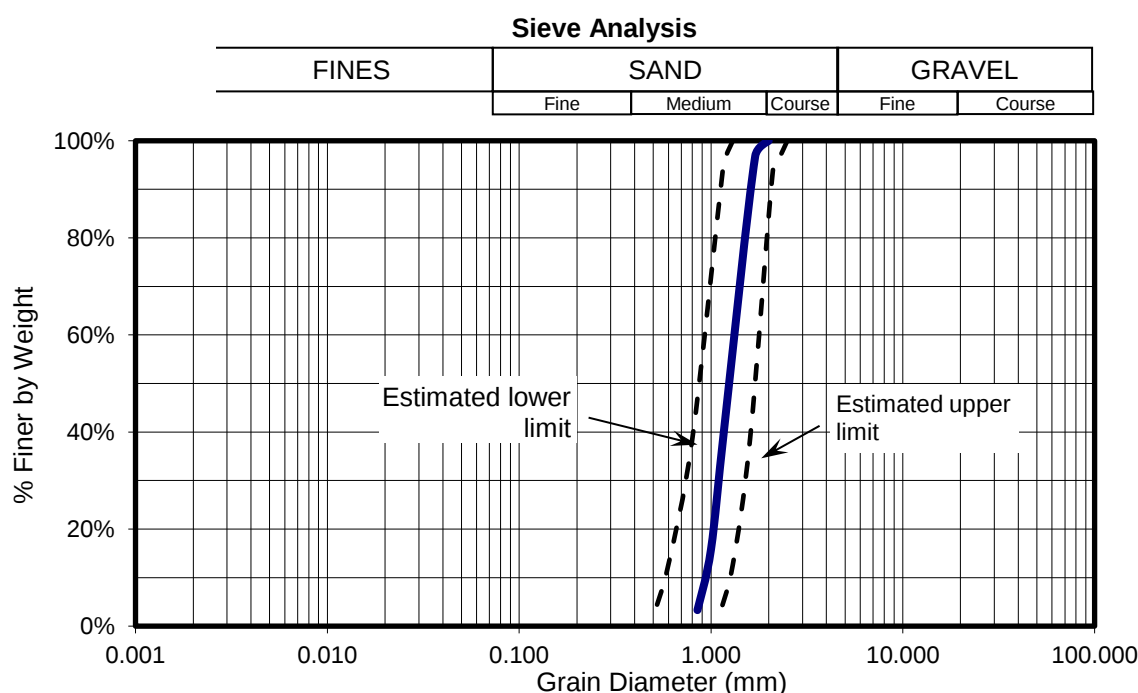

Figure 3: Estimated grain size distribution of backfill sand
7. **Backfill Material-** The backfill material will be sand provided by competition organizers on site. The sand will be a clean, dry, rounded to subrounded sand with grain size as specified in Table 1 and Figure 3. The backfill material must be used as-is: no water, additives, or chemical stabilizers may be placed in the backfill material.
Competition organizers will make reasonable efforts to ensure the competition backfill materials meet the specifications in Table 1 and Figure 3. Teams will be allowed to examine a sample of the competition backfill at the captains' meeting. No backfill samples may be removed from the meeting room. Teams may modify their wall design at this time if they desire. See section 11 below.